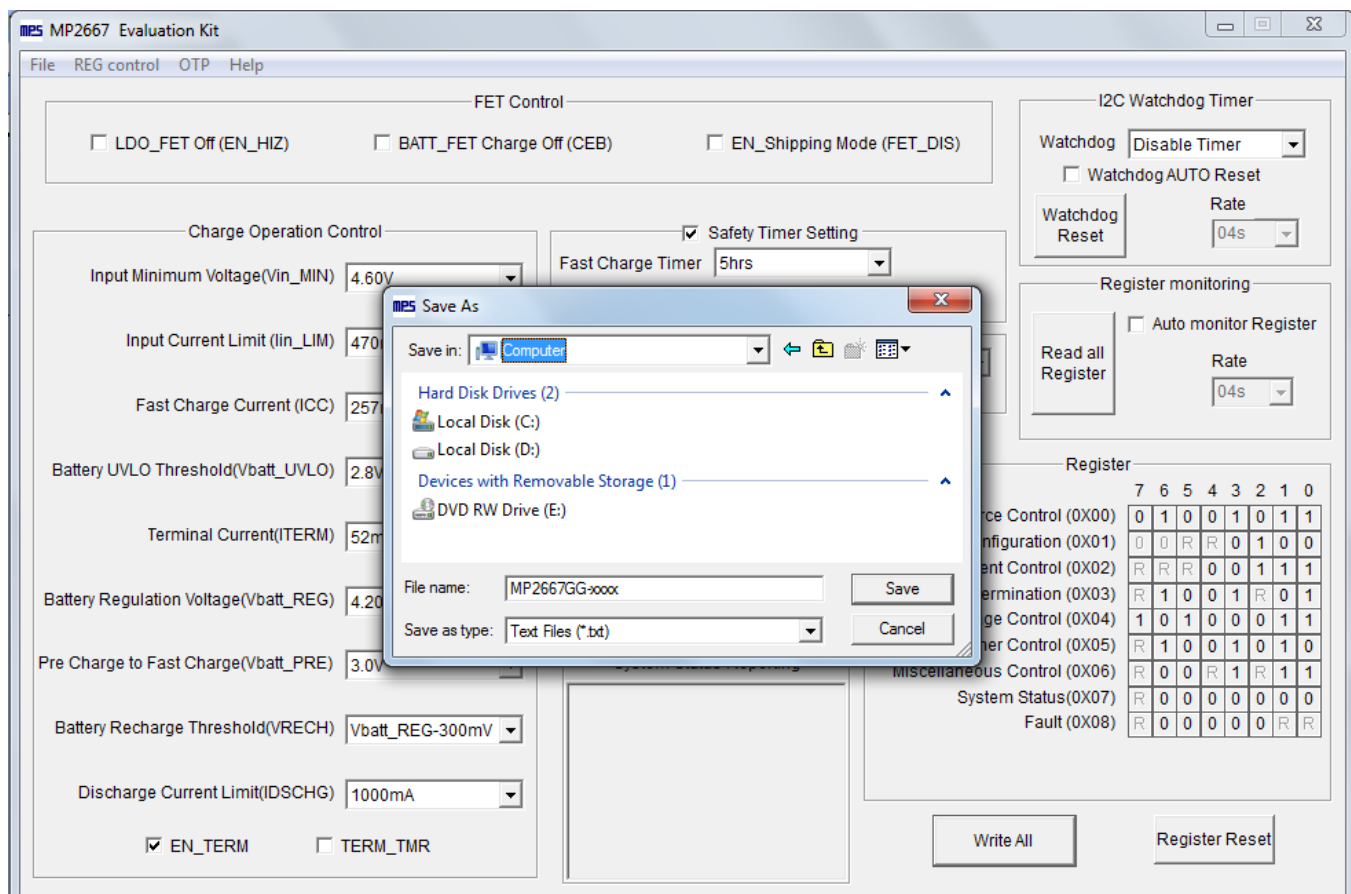

Figure 11: Saving OTP Configurations
- Find a location for the exported file, and click “Save.” The customized configurations will be saved in a .txt file (see Figure 11).